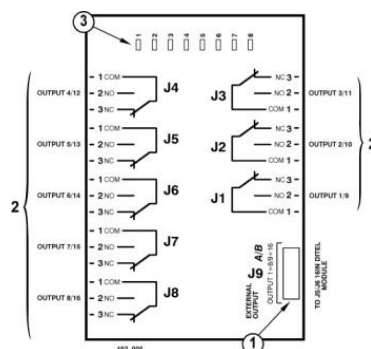

Fig. 2 - Relay Outputs Board
3.3 8 outputs relay module (optional) (ref. - fig. 2)